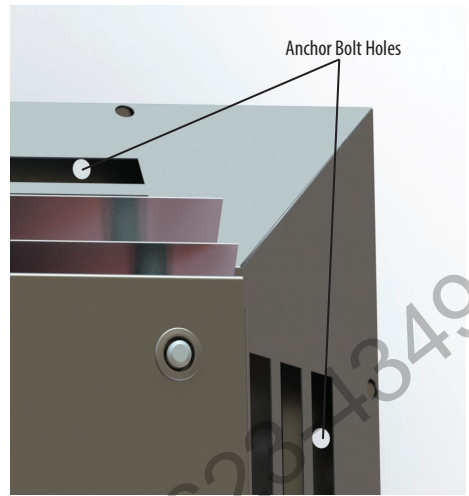
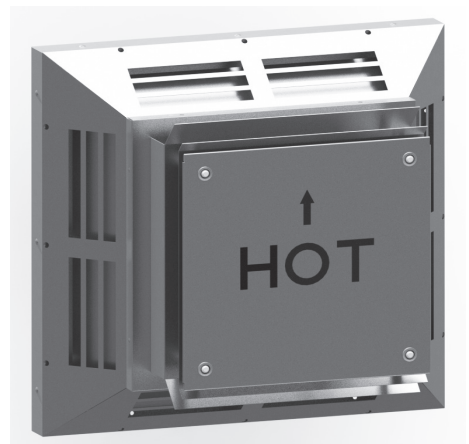

Figure 6
Figure 7
11. Use 3/16" x 2 3/4" Tapcon screws (or similar masonry anchor bolt) to attach the termination to the masonry. The diameter of the anchor bolt head must be less than 0.4375" to fit through the vent slot over the anchor bolt hole location. (See **Fig.6** for details on where to insert anchor bolts.) Make sure that the hot arrow on the front of the termination is pointing up. (**Fig.7**)